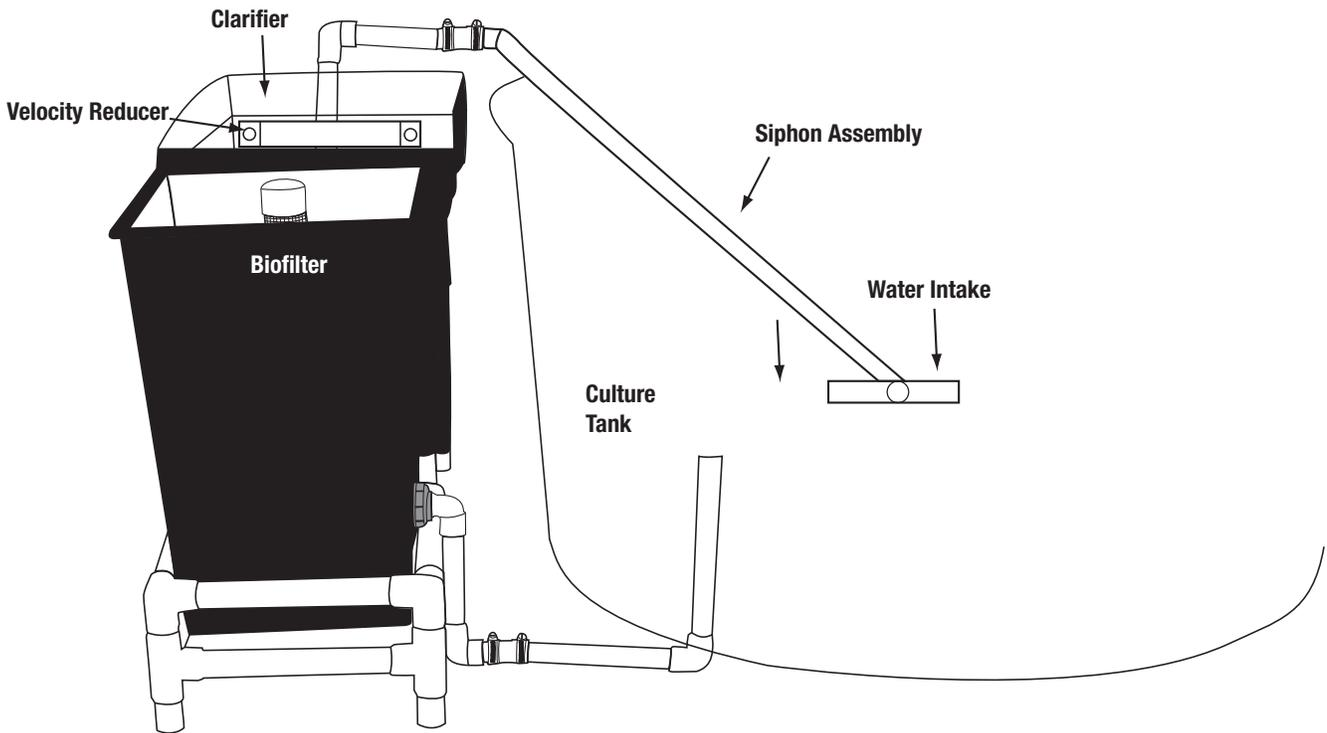

Fig. 5
- F. **Siphon Assembly:** Comes assembled. Install as shown in Fig. 5 with the velocity reducer on the left (deeper) end of the clarifier with elbows facing left. Water intake assembly should be centered and flat on the bottom of the tank. The velocity reducer goes in the deeper end of the clarifier with elbows facing away from the clarifier.